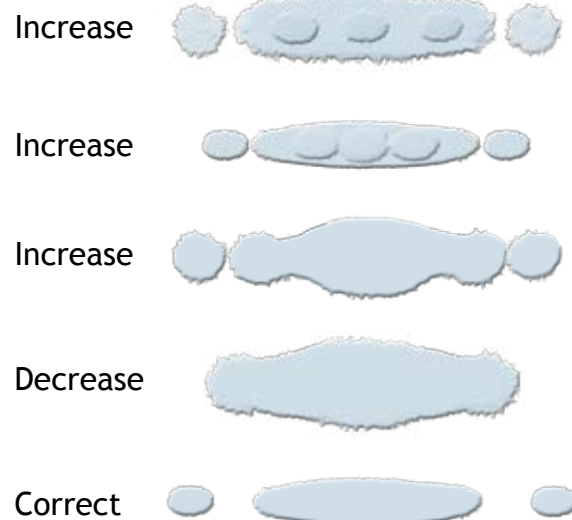

Figure 1: Spray Pattern—Without Air Assist
When dialing the pressure on the gun, the lower the pressure is usually better, however if more air pressure is needed to achieve the optimal spray pattern—it's okay. Adjust the pressure to achieve (1) a consistent center portion of the spray pattern, which does not have any irregularities and (2) only fringes showing a "finger" like pattern. As mentioned above, the amount of pressure needed will vary, but the below spray pattern examples can serve as a guide when adjusting air pressure (figure 1).